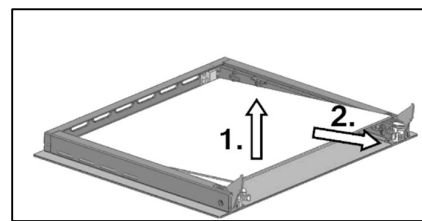

Figure 17
- Gently lift up the middle pane and remove it (Figure 17)